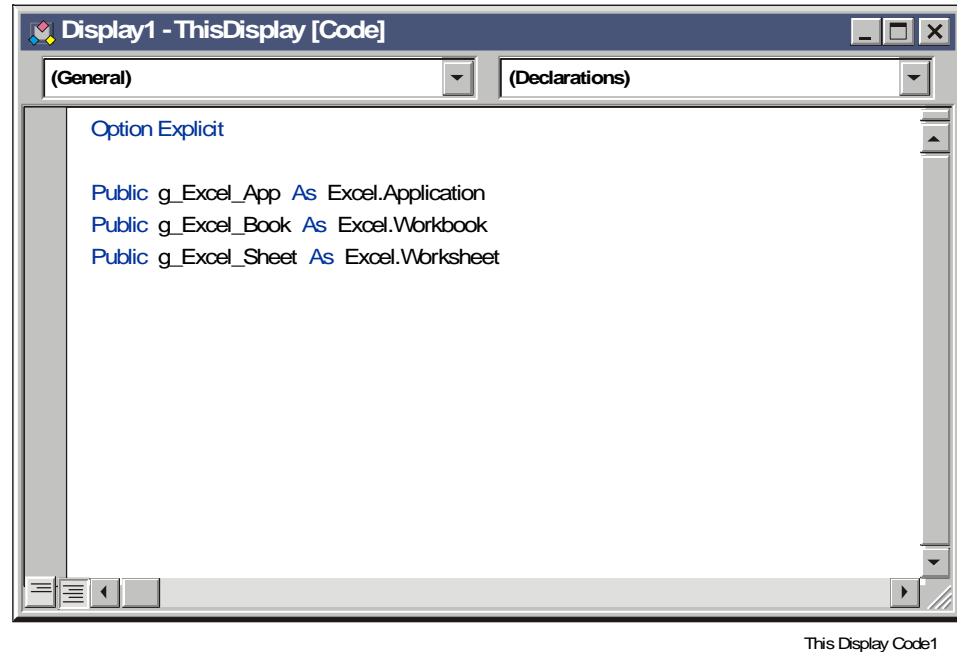

Figure 12-7: Test Subroutine
5. Type the code which is run when you double-click on the symbol in Design mode. Try the example code as shown in Figure 12-7.